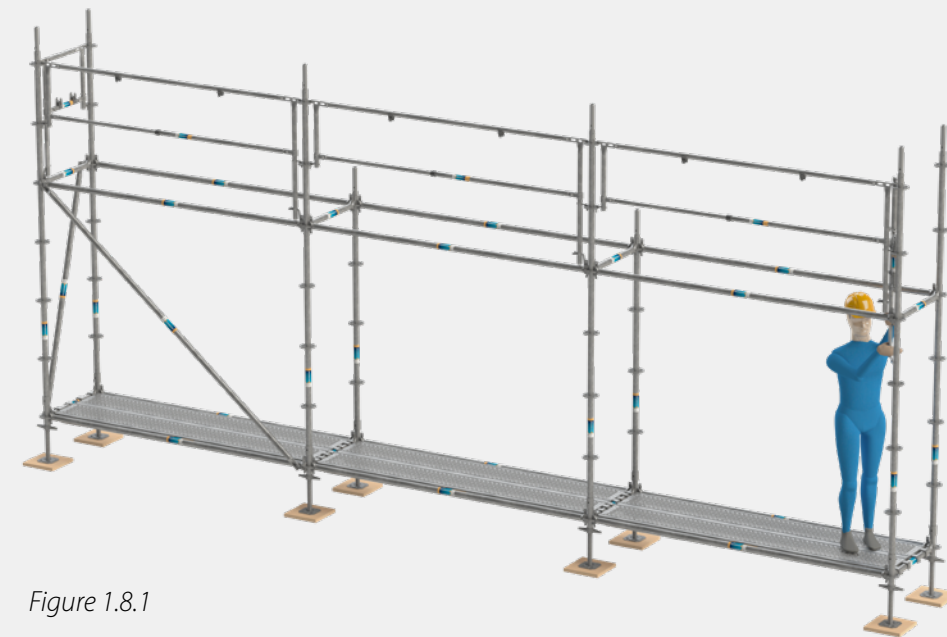

Figure 1.8.1
1.2.10 Similarly, place the RINGSCAFF PAGs for shorter lengths at the ends of the scaffold (see figures 1.8.1 to 1.8.3).